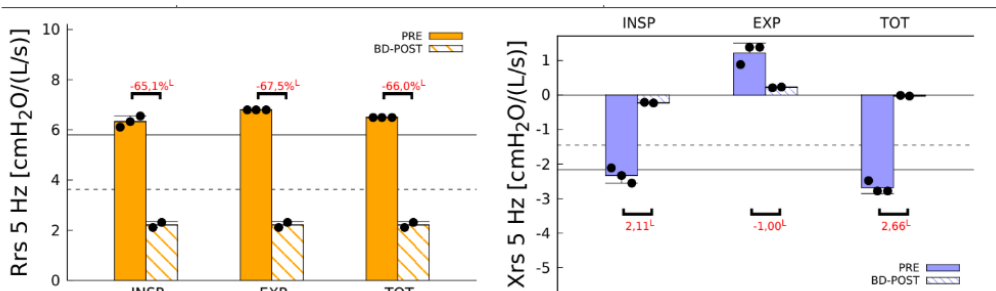
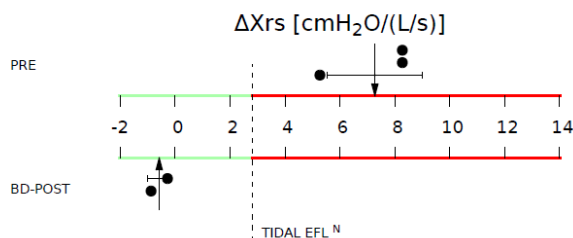

Figure 60 - Bars for resistance and reactance
Figure 61 - Expiratory Flow Limitation (EFL) during tidal breathing
Refer to Figure 61.
- Bars on the left chart of Figure 60 represent the mean and standard deviation of INSPIratory, EXPIratory and TOTAl resistance calculated from the selected single tests within a test session (see section *Performing a test session*). Bars on the right chart represent the mean and standard deviation of INSPIratory, EXPIratory and TOTAl reactance calculated based on the selected tests within a session (see section *Performing a test session*). The dots on each bar represent the mean values of the FOT parameters of each selected test of the session.
- If you used a 5 Hz stimulating waveform, an additional graph on the bottom of the page is displayed (Figure 61). This graph shows as an arrow the mean and standard deviation of ΔXrs calculated over all the tests of the session. Black dots represent the mean ΔXrs of individual tests results. ΔXrs is the difference between the mean inspiratory and the mean expiratory reactance and it is an index of expiratory flow limitation (EFL) during tidal breathing (Dellacà et al., ERJ, 2004). A threshold of 2.81 cmH₂O/(L/s) is used to classify a patient as flow limited or non-flow limited during tidal breathing (Dellacà et al., ERJ, 2004). If such arrow is in the green part of the graph the patient has no flow limitation during tidal breathing. An arrow in the red part of the graph indicates the presence of EFL.
In addition to the charts reported when a single frequency stimulating waveform is used (Figure 60 and Figure 61) where data are the resistance and reactance at 5Hz), a new chart with values of inspiratory resistance (orange solid line) and inspiratory reactance